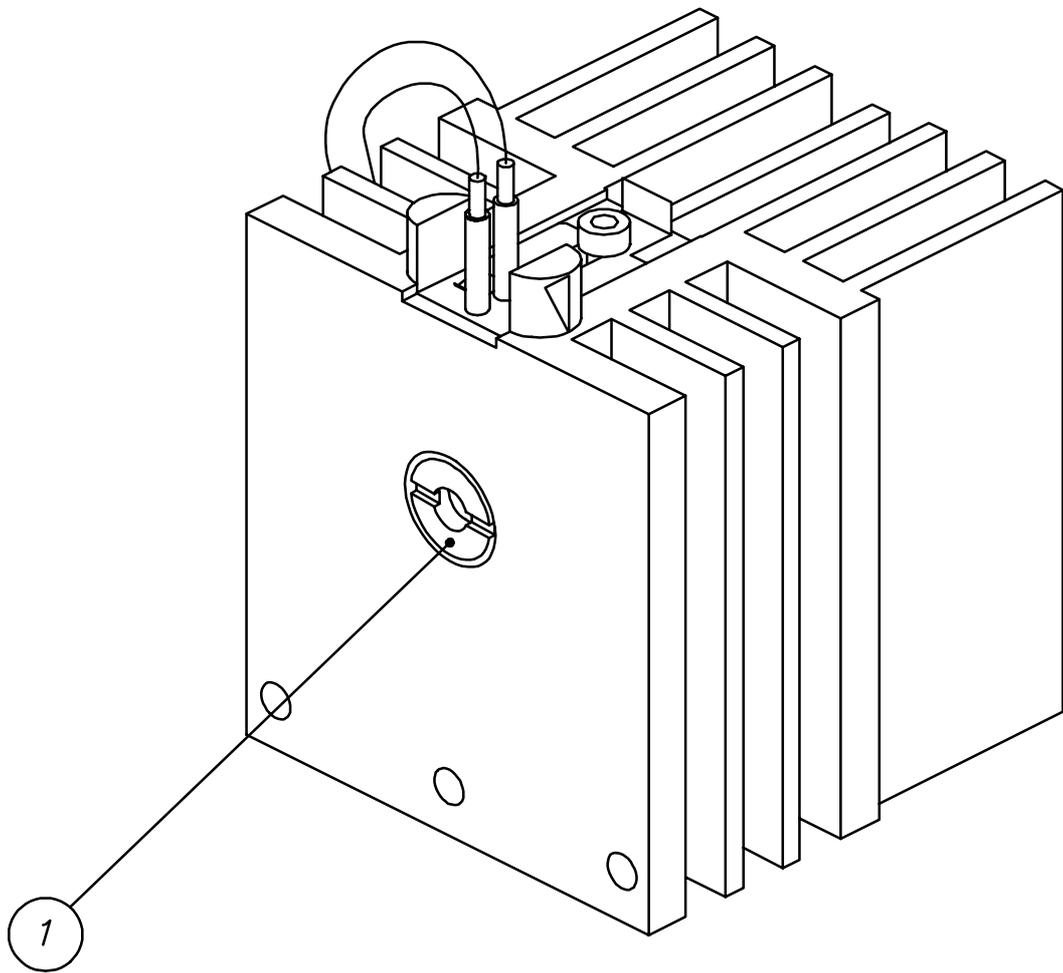
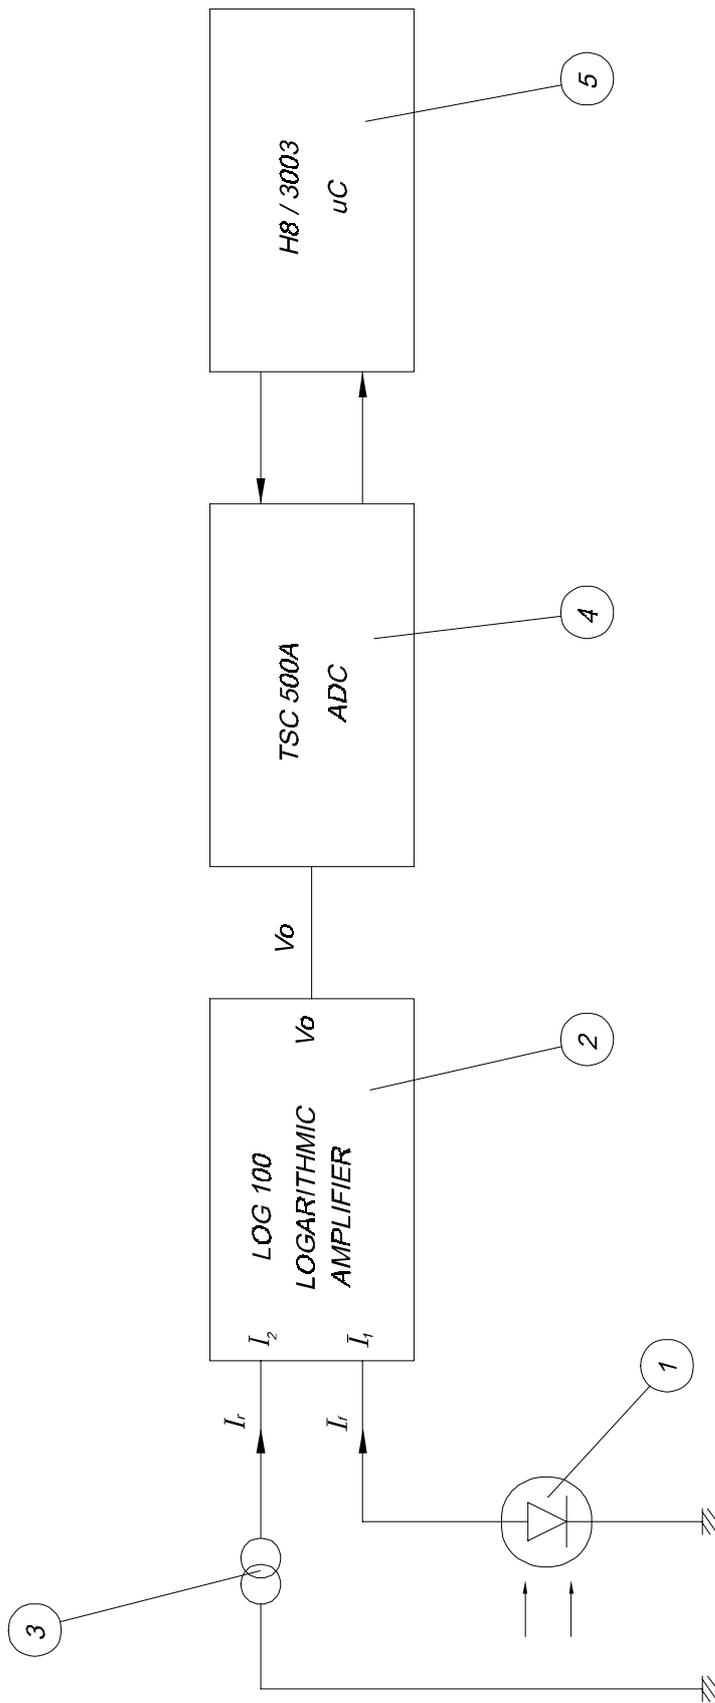

Fig. 2.3
Fig. 2.4
- A heat sink shape aluminium block (2) containing a lamp-holder (3). That block includes a diaphragm (figure 2.3 (1)) that delimits the a light solid angle.
- A lens holder (4) that contains the first lens.
- A filters wheel (5), with capacity for 9 filters. This filters must be mounted in special holders (6). This wheel is moved through a belt (8) by a stepper motor (7). A photointerrupter (9) allows the detection of a stem (10) that indicates the filters wheel home position.
- A lens holder (11) that contains the second lens.
- A light protector (12), fitted together the second lens holder, avoids the parasite light interference.
- A cuvette-holder (13) holds both the cuvette and the photodiode detector. The thermostatic system is fitted together (see section 2.3.).
(See figure 2.4) The photodiode (1) gives an electric current (I_f) directly proportional to the received light. This current goes to the input I_1 of the LOG-100 logarithmic amplifier (2). A reference current I_r (3) (nominal 100 nA) is introduced by input I_2 . The output voltage of LOG-100 is: